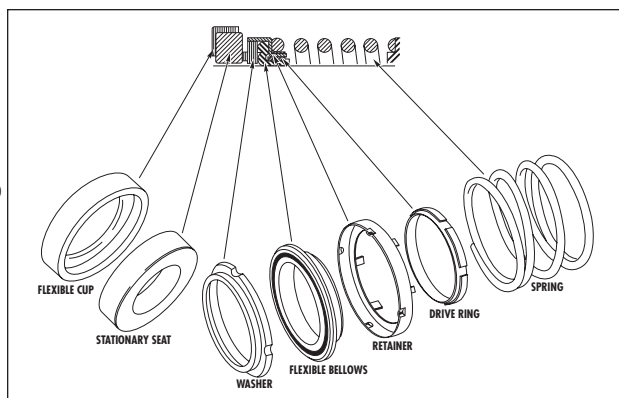

Figure 3. Mechanical Seal
- III. Place the seal's spring, drive ring, retainer, flexible bellows, and washer on shaft sleeve in respective order. (Refer to Fig. 3.)
- IV. Thoroughly inspect cavity of seal gland (31) for burrs or nicks which could damage the seat of seal. Apply a film of liquid detergent to seal seat and install it in the seal gland cavity, taking care to seat it evenly and squarely.
- I. Place one seal seat in collar (456B). The other fits into seal gland (31). These parts are set into their cavities in the same manner as they are with a single seal.
- II. Place O-rings (456A) around collars (456B) and put the collars with stationary seats facing away from impeller on ends of shaft. Slide flexible bellows, washers, and springs on shaft in the order shown in Figure 3, for each half of double seal assembly (456).
- III. Place O-rings (31A) around the seal glands (31) and slide seal glands onto ends of the shaft with stationary seats facing impeller.
6. Place slinger (A126) onto outboard end of shaft (4).